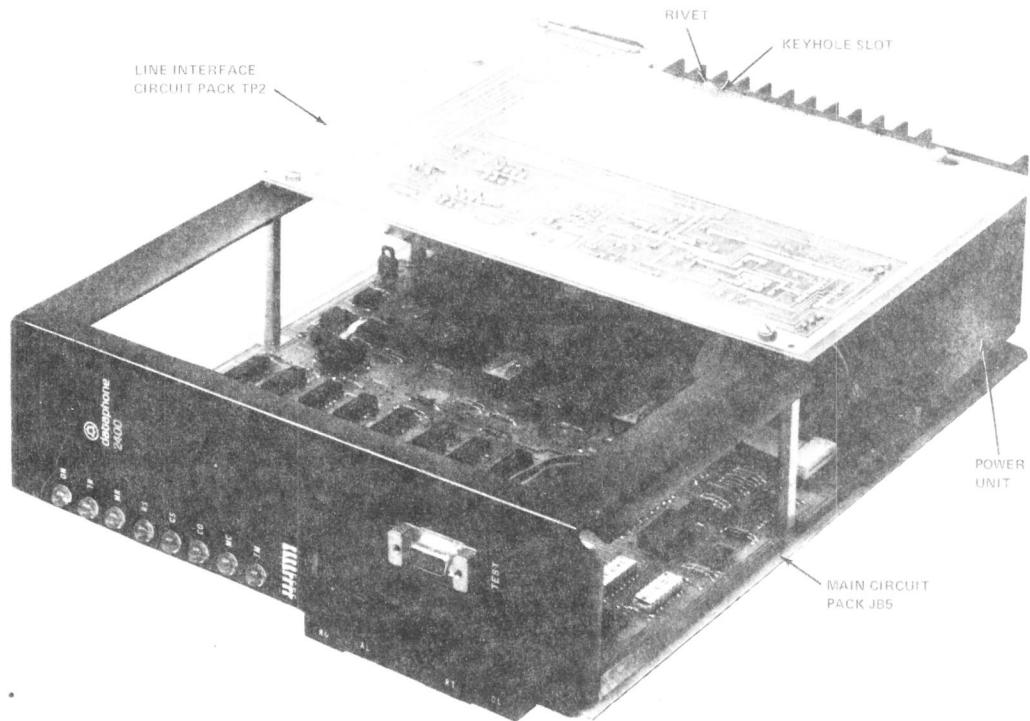

Fig. 2—DS 201C-L1D/2/5—Internal View
- L1D—Consists of the basic data set that is composed of two circuit packs (Fig. 2) interconnected by a flexible cable.
- L2—Consists of the 100A power unit (Fig. 2) that provides +12, -12, and +5 volts.